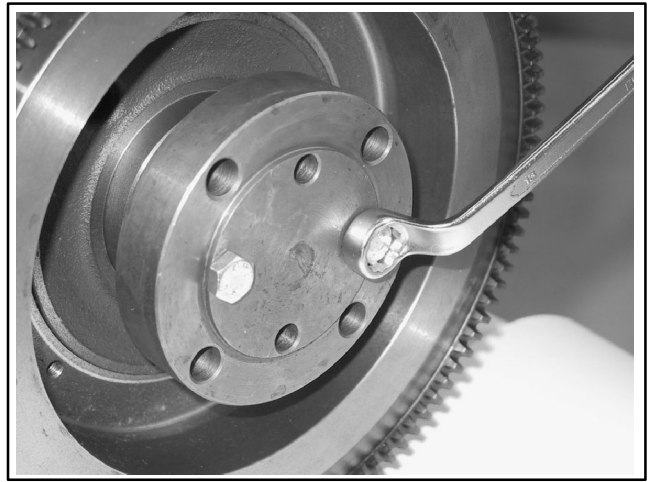

Figure 10-53 Flywheel
3. Turn the two screws until the flywheel breaks loose from the tapered side of the engine crankshaft. See Figure 10-53.